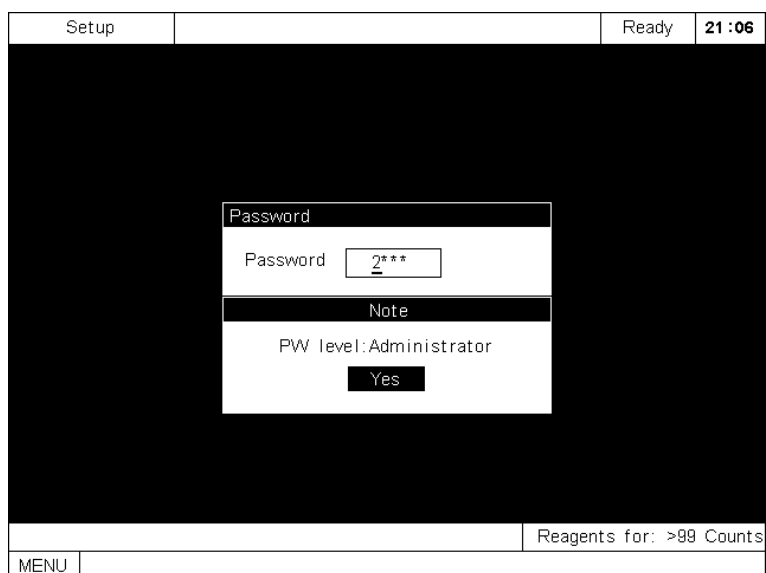

Figure 7-3 Obtain administrator authority
4. When you are done entering the password, press [ENTER] to save the password to the system, as Figure 7-3 shows.